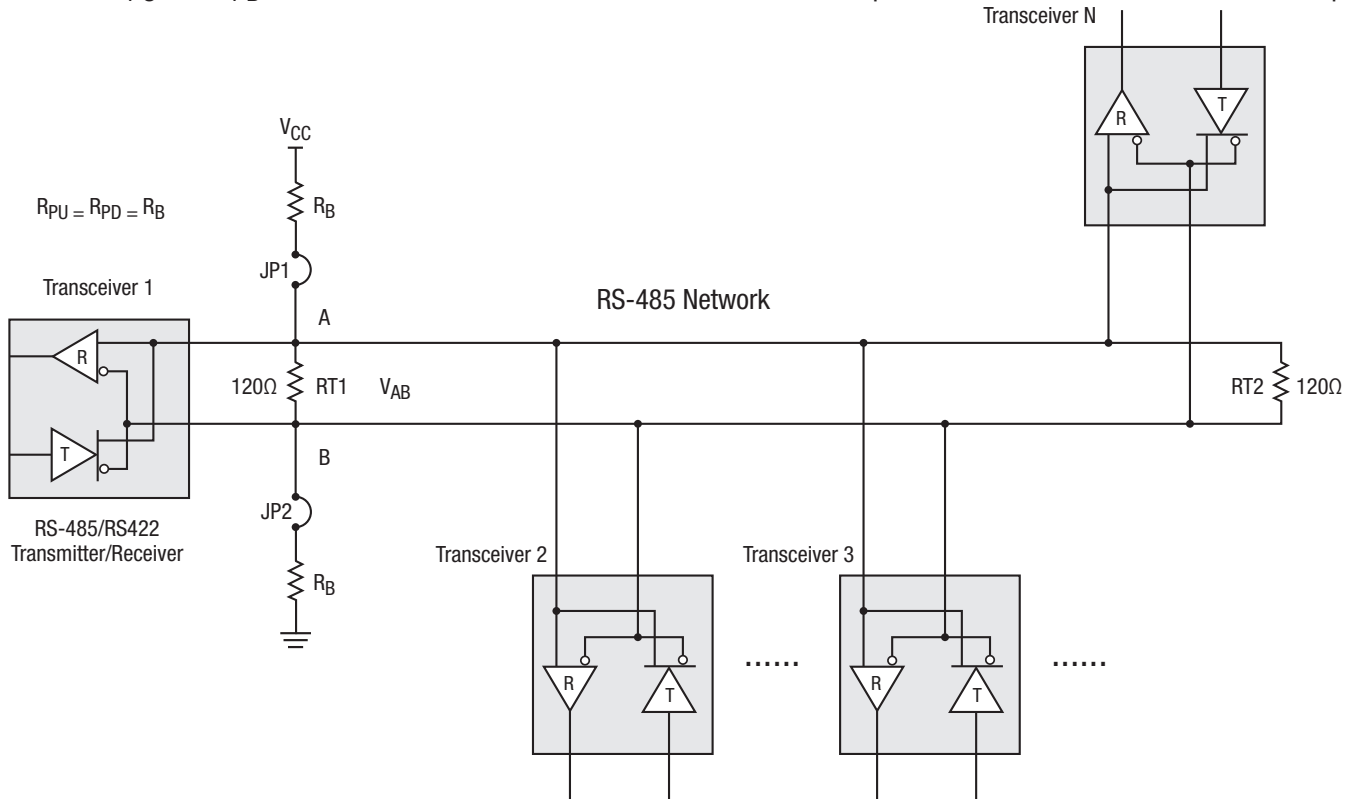
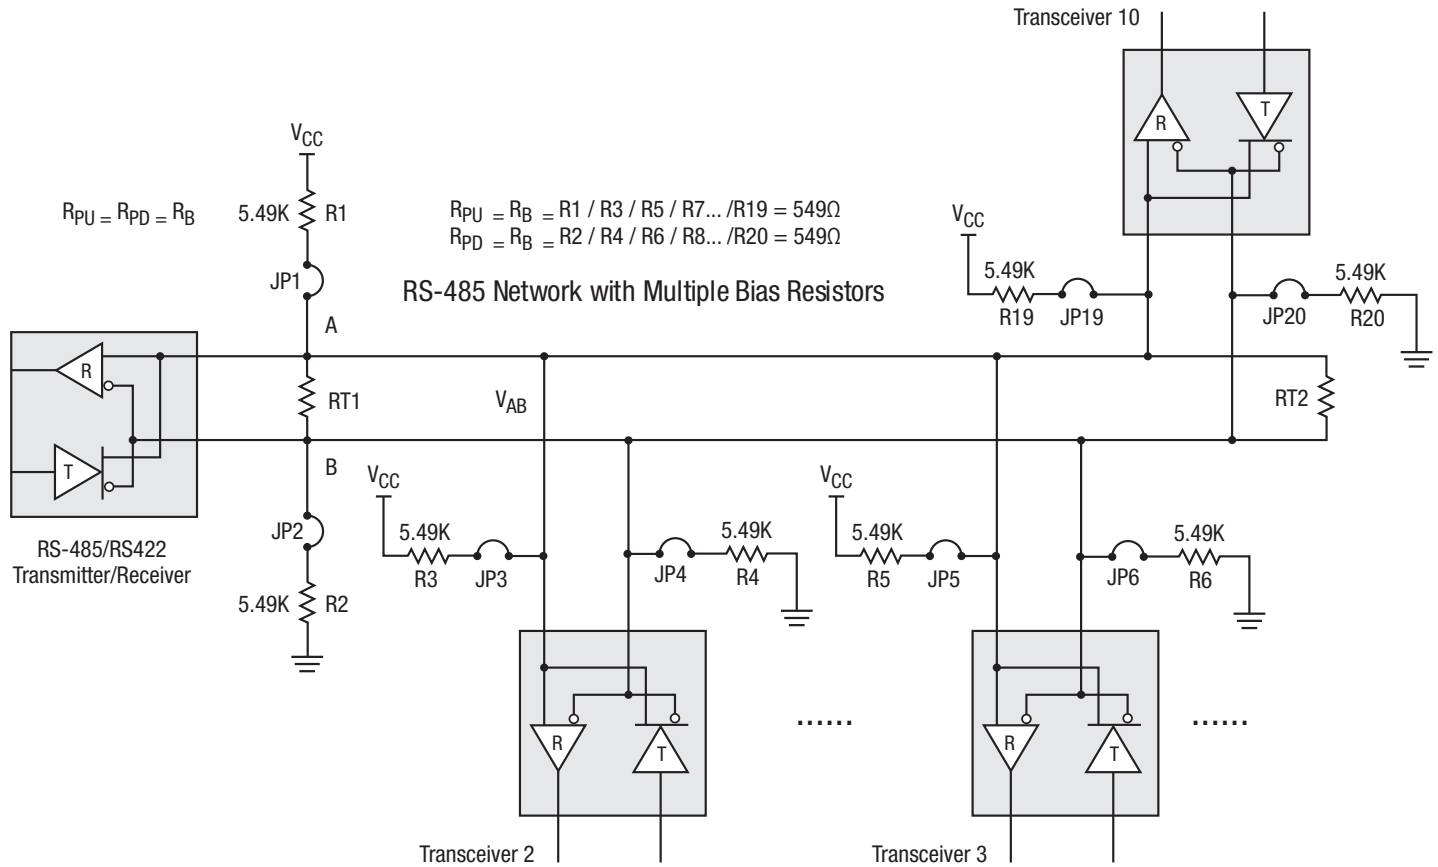

Figure 10: SP339 and XR34350 in RS-485 Mode with Other Transceivers
Figure 12: Network with Multiples Pull-up and Pull-down Bias Resistors
Figure 10 shows an equivalent RS-485 distributed network with multiple standard failsafe transceivers. In order to force
As observed from Figure 10, failsafe biasing is adding additional load to the RS-485 network. The maximum number of devices on the network can be calculated from Equation (3).
As observed in Figure 12, it is rather complicated to implement the network with multiple pull-up/pull-down resistors. The best method is to have one bias resistors network as shown previously in Figure 10 (with only JP1 and JP2 installed, $R_B = 549\Omega$, and $RT1 = RT2 = 120\Omega$, all others jumpers and resistors should be removed).